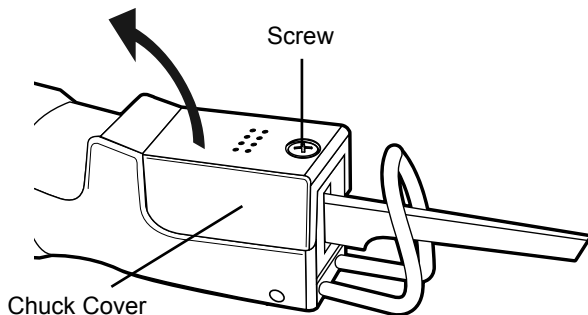

Figure 2
3. To change blades, first open the Chuck Cover (26) by removing the Screw (38). Swing the Chuck Cover (26) back on its hinge. See Figure 2, above.